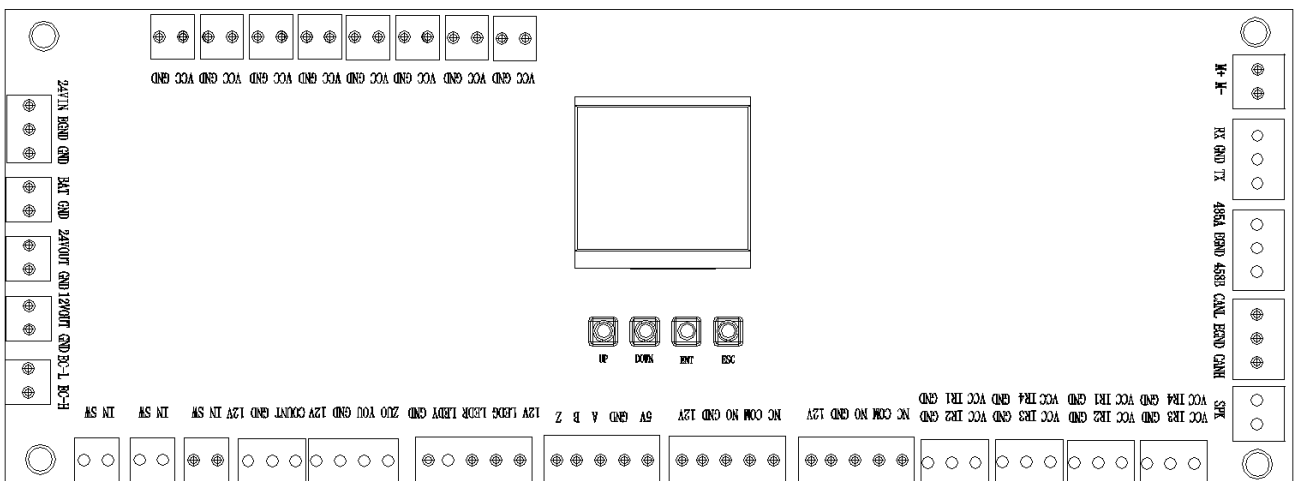

Figure 5-1
2. There are 4 buttons, namely, "UP", "DOWN", "ENT" and "ESC" on the control board, as shown in Figure 5-1: